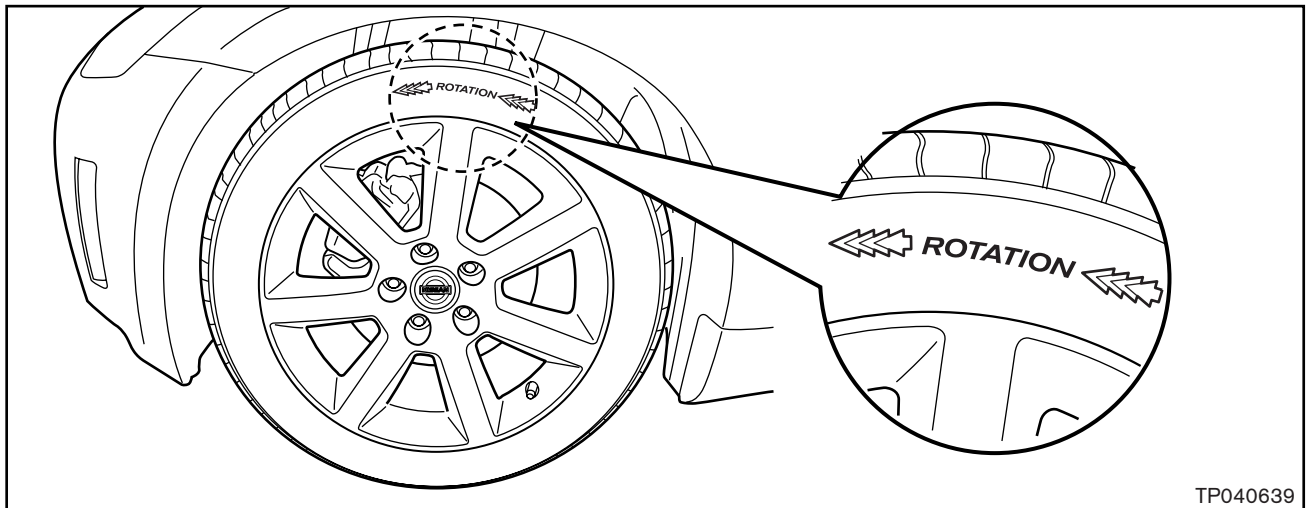

Figure 3
- a. If the tires on your G35 sedan have a directional arrow as show in Figure 3, skip to step 7.